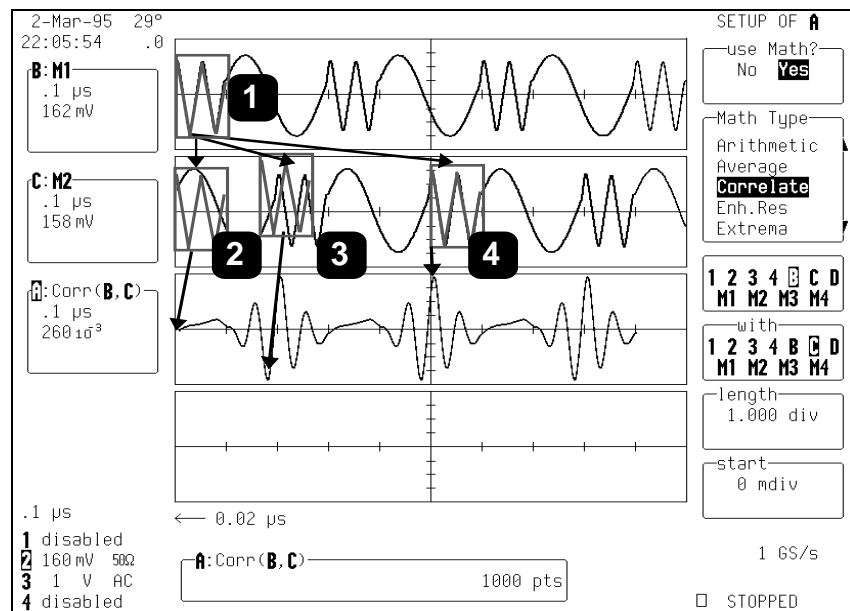

Figure 8.3
As the correlation function is a math function, “Yes” is selected from the “use Math?” menu, and the menus shown in *Figure 8.3* are accessed.
*Figure 8.4* on the following page shows the result of setting the “**start**” menu to one division. This menu is used for determining at what point in the “**with**”-selected waveform the selected section will begin the correlation. In this figure the selected waveform section from Trace B is initially correlated with the waveform in Trace C, starting at one division. The resulting correlation waveform is identical to the correlation waveform in the preceding figure 8.3, from one division on. Since the correlation starts one division from the start of the waveform in Trace C, it is reduced in length by one, to eight divisions.